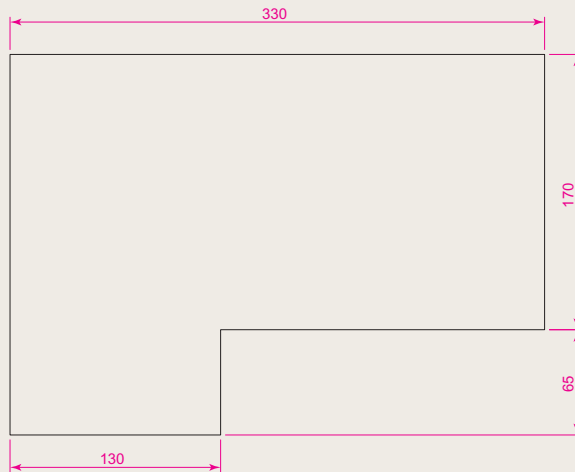
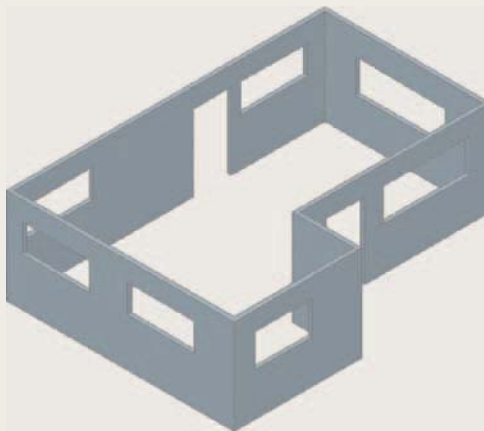

Fig. 12.45 Exercise 1 – outline for polyline
Fig. 12.46 Exercise 1 – polysolid outline
1. Figure 12.45 shows the pline outline from which the polysolid outline Fig. 12.46 has been constructed, construct extrusions which can then be subtracted from the polysolid. Sizes of the extrusions are left to your judgement.